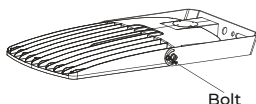

Fig. 37
1. Use a wrench to loose the adjustment screw on both sides of the fixture as shown in Fig. 37.